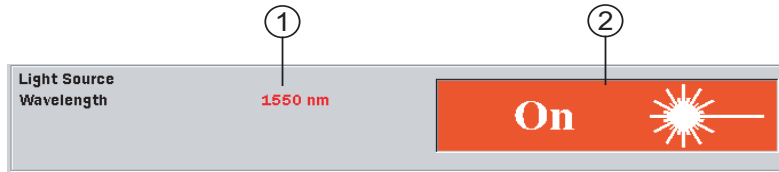

Figure 8-4: Light Source Area
Press the Light Source Off softkey to start the optical light source. The red legend on the softkey as well as the legend in the Light Source Wavelength indicator (see item 2 in Figure 8-4 on page 8-4) change to “On”. In addition, the background of the Light Source Wavelength indicator changes from black to red.
Press the Light Source Wavelength softkey to scroll through the available wavelengths for the MT9083 Series Optical Light Source. Check the Light Source Wavelength indicator (see item 1 in Figure 8-4 on page 8-4) for the currently selected wavelength.